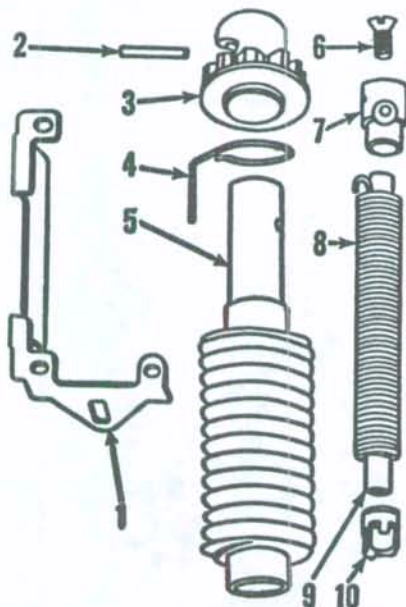
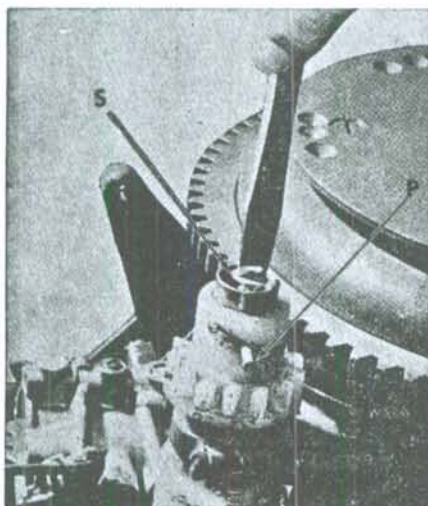

Fig. WB19—Exploded view of recoil starter of the type used.
Fig. WB20—To disassemble the starter, first remove lock screw (S) and install the special tool before attempting to remove drive pin (P). Refer to text.
Fig. WB19 shows an exploded view of the recoil starter assembly. Starter pinion (3) engages a starter ring gear on the fly-wheel (See Fig. WB20).
To disassemble the starter assembly, first remove the engine cover, then remove screw (S—Fig. WB20). NOTE: This screw locks pin (P) in place in starter shaft. Thread the special "T" handle tool (West Bend, T3139) in threaded hole from which screw (S) was removed. Tighten the tool until it bottoms. Turn tool handle slightly counter-clockwise to relieve spring tension; then carefully push the pin (P) out of pinion and starter spool. Allow the tool and starter drive (7—Fig. WB19) to turn clockwise until recoil spring (8) is unwound; then use the tool to withdraw the recoil spring (8) and drive (7) from center of starter spool (5). Guide post (9) and spring retainer (10) can be lifted out after recoil spring is removed.